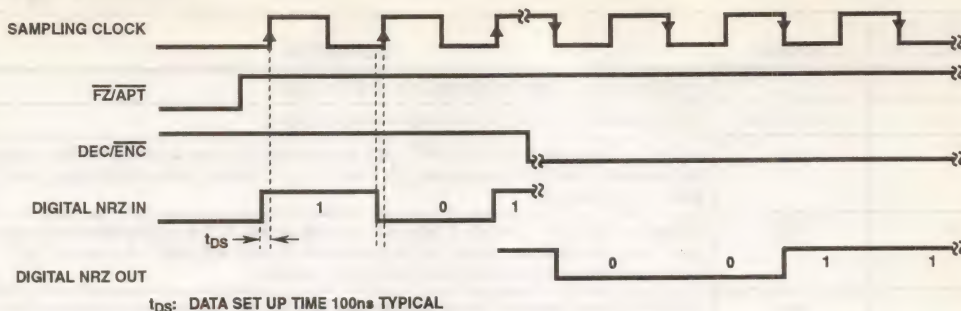

FIGURE 2. CVSD TIMING DIAGRAM
- There is one NRZ (Non-Return Zero) data bit per clock period. Data is clocked out on the negative clock edge. Data is clocked into the CVSD on the positive going edge (see Figure 2). Clock may be run at less than 9kbps and greater than 64kbps.